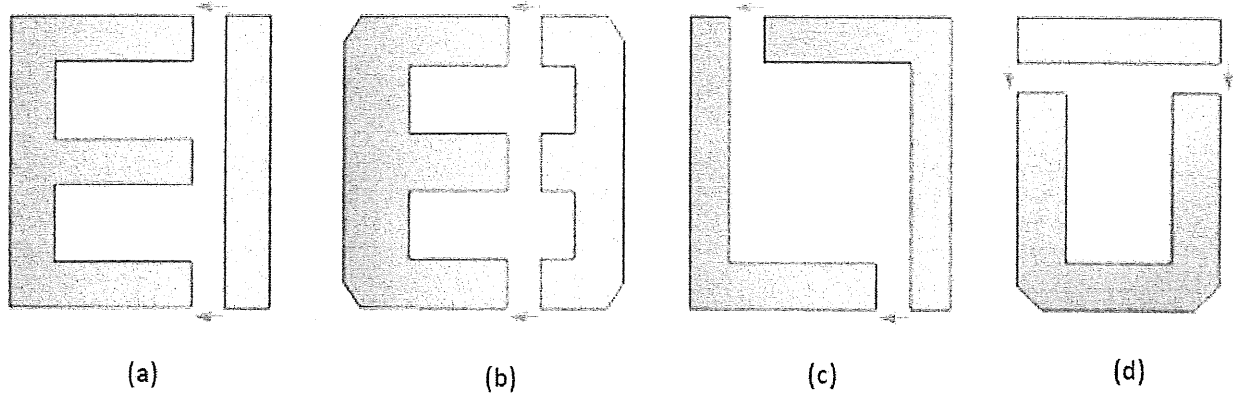

Figure 1
a) State the name of each transformer core lamination designs shown in Figure 1 (a) – (d).